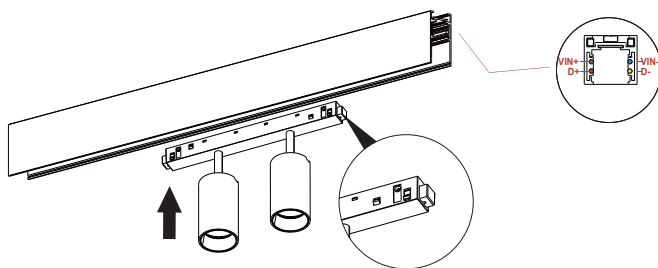

Figure 22
2. Make sure the +ve/-ve direction is correct and insert the fixture unit into the track rail (Figure 22).